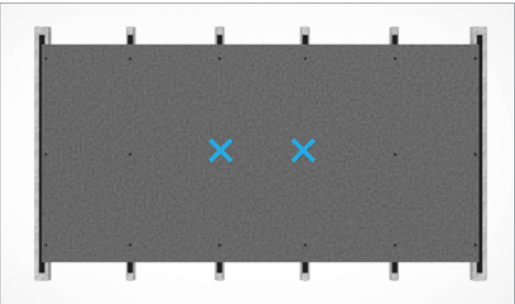

FIGURE 17.
- If the panel is installed horizontally or runs across two intermediate top hats, the board must have two fixed points as close to the centre of the panel as possible and must be aligned horizontally. (see Figure 17)